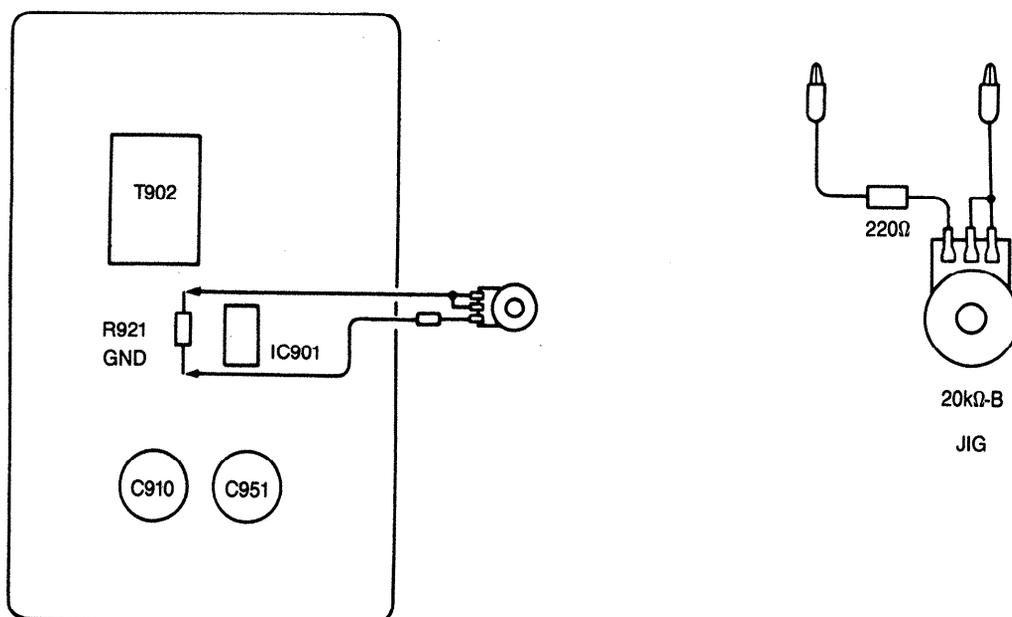

Fig. 2
1. Connect the high voltage voltmeter between the high voltage connector and chassis ground as shown in Fig. 2.
4. Connect the jig as shown in Fig. 2 to POWER SUPPLY P.W.B.